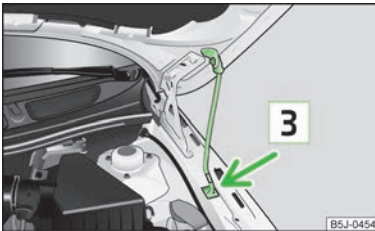

Fig. 117
- Take the bonnet support out of its holder and secure the opened bonnet by inserting the end of the support in the opening **3** » Fig. 117 designed for it.